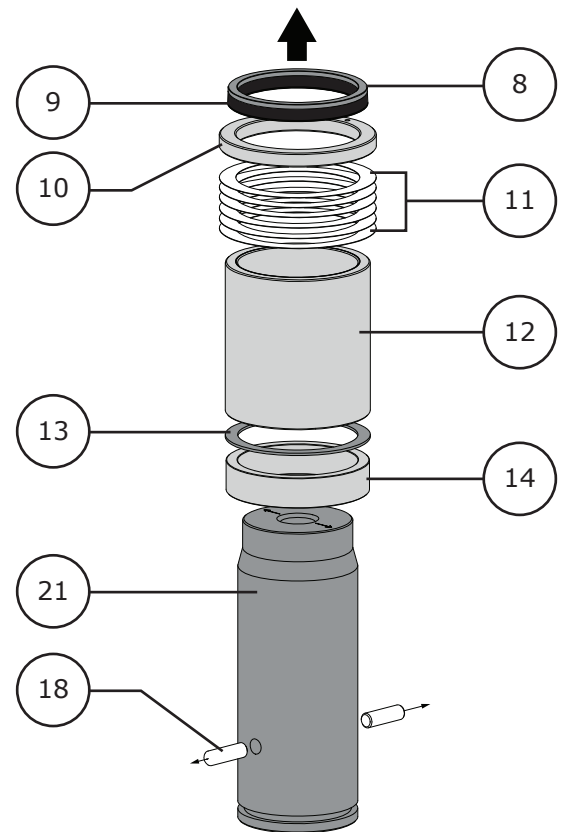

Figure 17 Follower Shaft Disassembly
Remove the backup ring (Key 8), seal ring (Key 9), and spacer (Key 10) from the follower shaft (Key 21). Refer to Figure 17. For Live Loaded Packing assemblies, skip this step.
- 6** Remove the bushing spacer shims (Key 11) from the follower shaft (Key 21). Refer to Figure 17.